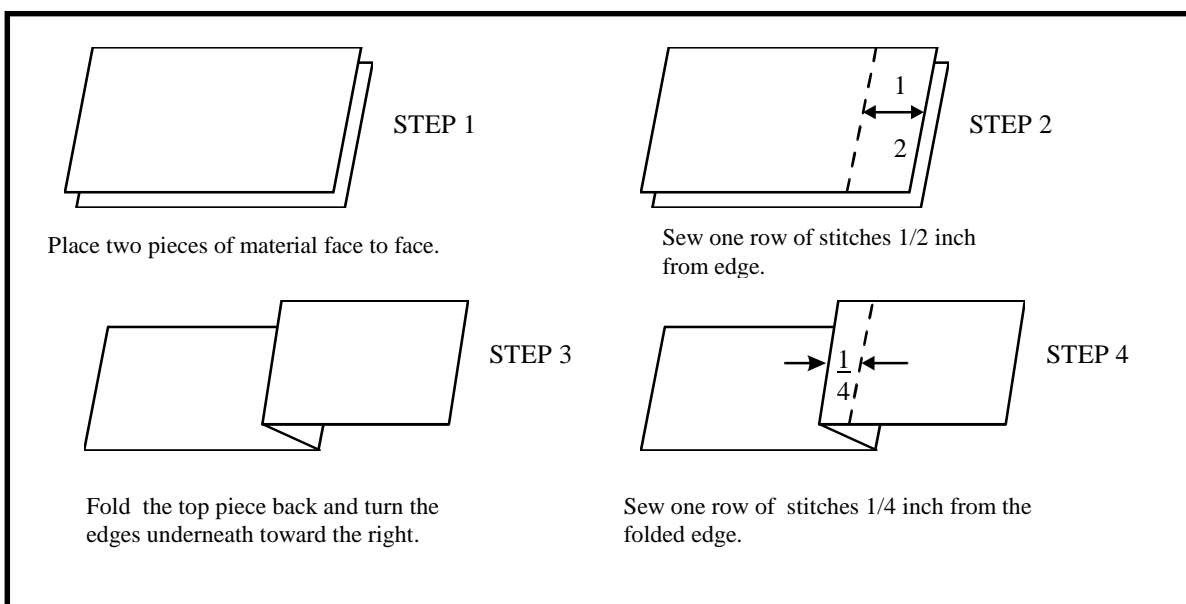

Figure 3-11. Seam type 3
d. Seam Type 3. Seam type 3 (Figure 3-11) is a welt seam. It is a strong seam used to sew pockets, sleeves, and main seams in heavy garments. This seam is also used to replace pocket flaps and to attach a zipper to the right side of a fly front. Seam type 3 is a combination of the simple seam and seam type 2. To make seam type 3--
(1) Cut an 8- by 8-inch piece of material into two pieces 4 inches by 8 inches.
(2) Place the two pieces of the material on the table face to face.
(3) Mark the top piece of material 1/2 inch from edge (on the 8-inch edge) across the length of material.
- (4) Make certain both edges of the material (top and bottom pieces) are even at the marked edge.
- (5) Sew the two pieces of material together with a simple seam, following the markings made 1/2-inch from the edge.
- (6) Tack the stitch lines at both ends with a 1-inch tack (no less than 7/8-inch, or no more than 1 1/8 inches).
- (7) Fold the top piece of the material to the right, and sew a row of stitches 1/4 inch to the right of the simple seam.
- (8) Tack both ends of the seam with a 1-inch tack.
- (9) Press the seam area flat with an iron.